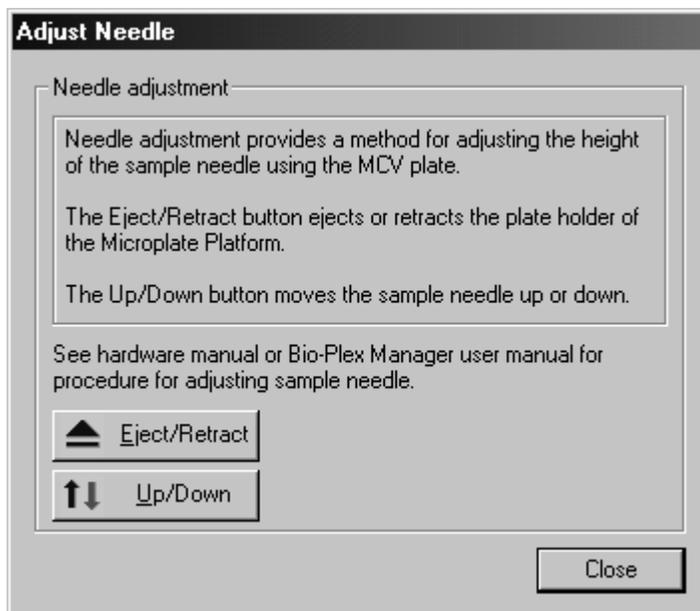

Fig. 15. Sample needle dialog.
4. Choose **Setup**. Choose **Adjust Needle** from the pull-down menu. The following dialog box appears (Figure 15):